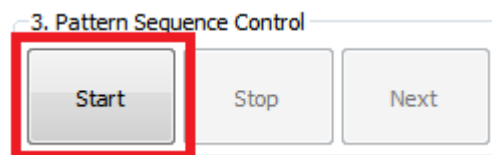

Figure 2-42. DLP LightCrafter GUI Pattern Sequence Control Start Button
7. Start the pattern sequence by clicking Start as shown in Figure 2-42.